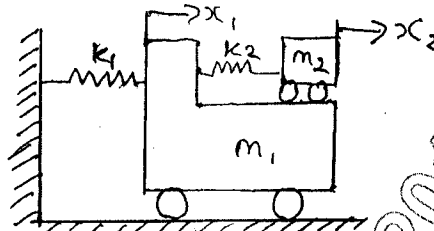

Fig. Q6 (b)
- b. Determine the natural frequency of the system shown in Fig. Q6 (b).